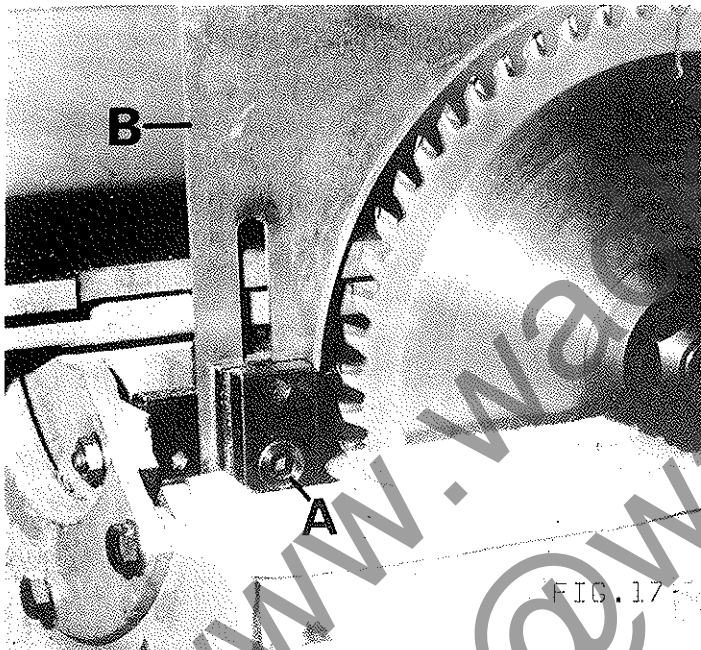

FIG. 17
- 3) Loosen M16 socket head screw 'A' FIG.17, and move riving knife 'B' both vertically and horizontally to correct position.